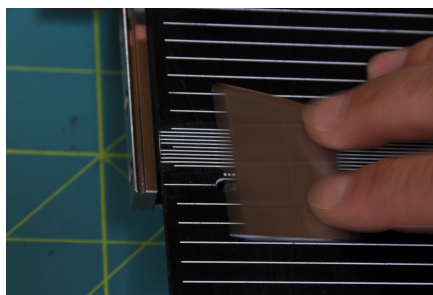

Figure 24 Slide the sample over the scribe until it makes contact.
- c. While moving the diamond scribe up (counter-clockwise), slide the sample over the scribe to determine when the tip is level with the tool surface (Figure 24).